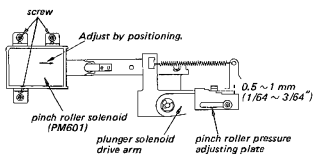

Fig. 3-8. Pinch roller solenoid (PM601) position adjustment
- Loosen the three solenoid holding screws shown in Fig. 3-8.